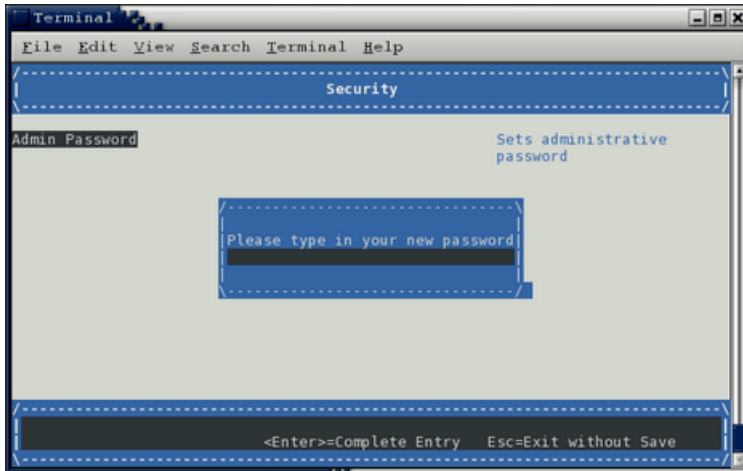

Figure 3-28 Security Screen for Setting Administrative Password
3. From the boot manager screen, select **Device Manager**, as shown in Figure 3-28 on page 68.
6. From the **Security Admin Password** screen, enter the new administrative password, as shown in Figure 3-28 on page 68.